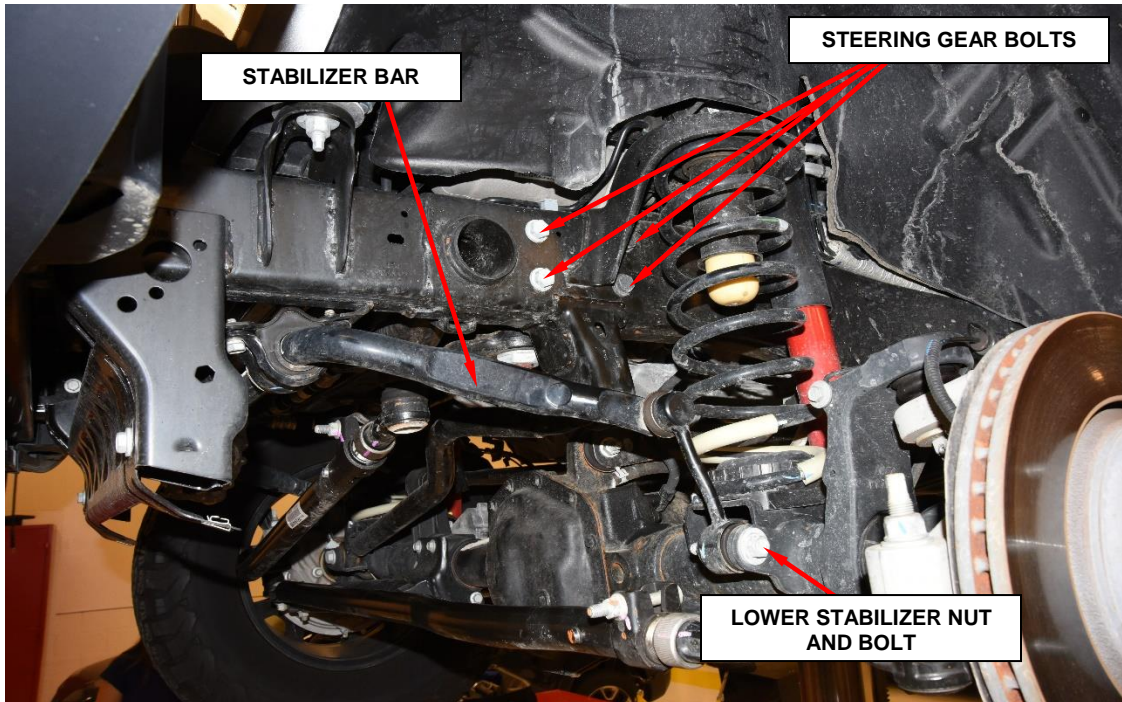

Figure 6 – Steering Gear
6. Remove the four steering gear mounting bolts and **DISCARD** the bolts (Figure 6).
7. Remove the lower stabilizer bar nuts and bolts from the right side and left side and **DISCARD** (Figure 6).
NOTE: The two long bolts go on the left side and two shorter bolts on the right side (Facing View) Figure 6.
14. Install the stabilizer bar and loosely tighten the **NEW** lower nuts and bolts (Figure 6).